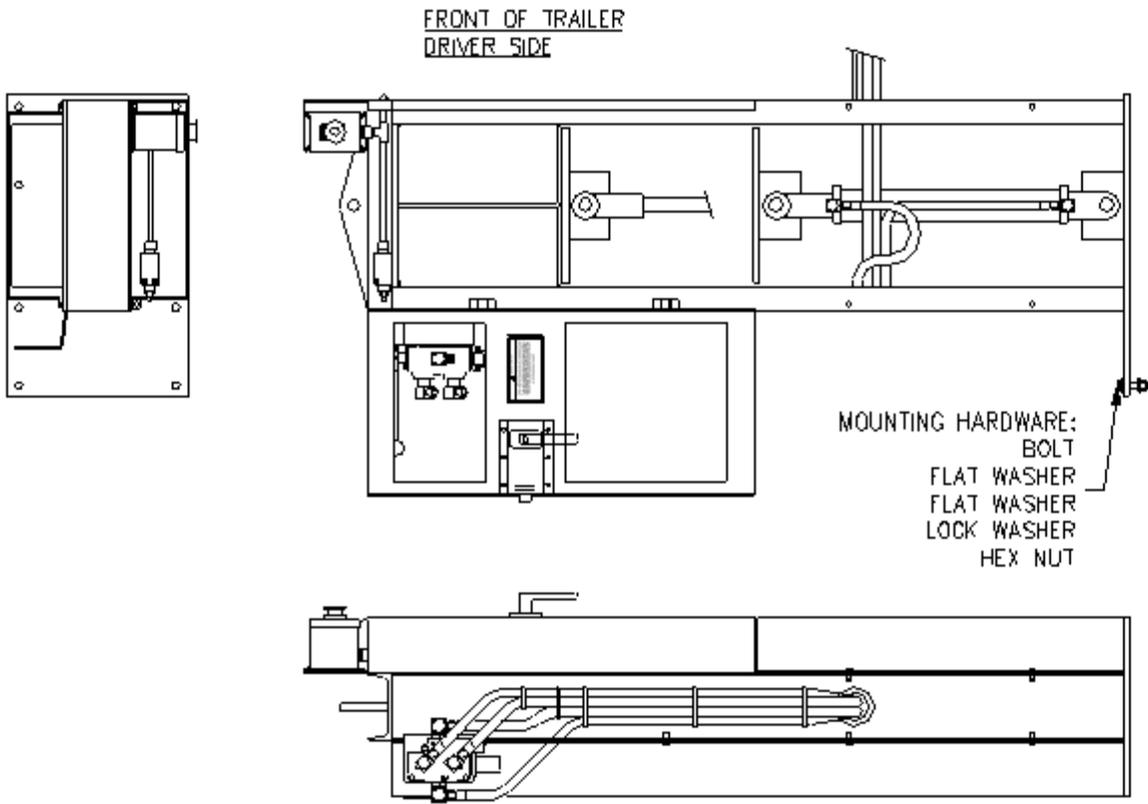

FIG.3
- * Proper hydraulic hose routing is shown on the Fig.3. Verify that all the hydraulic connections are tight and secure